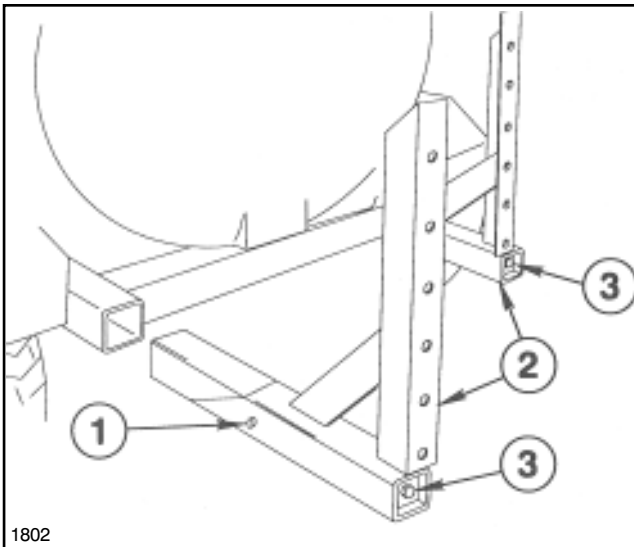

FIG. 1
1. Remove Stop Pins in Boom Mount Assemblies. Apply a heavy coating of grease to the tubes of the two (2) Boom Mount Assemblies and insert them into the Vehicle Frame until Angled Gusset bottoms out against Vehicle Frame. (See FIG. 1)